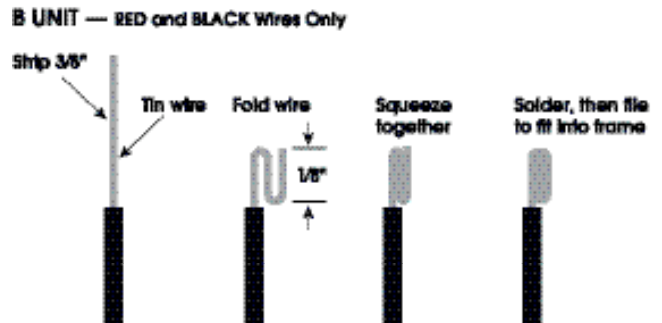

Fig. 2
- **B Unit Only:** Strip RED and BLACK wires and tin them. Fold back and forth in 1/8" segments. Squeeze together and solder. File to fit light board slot in frame. (See Fig. 2.)